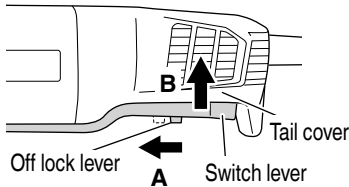

Fig. 3
2. To switch on, slide the off lock lever in the direction of A and press the switch lever in the direction of B as shown in Fig. 3.